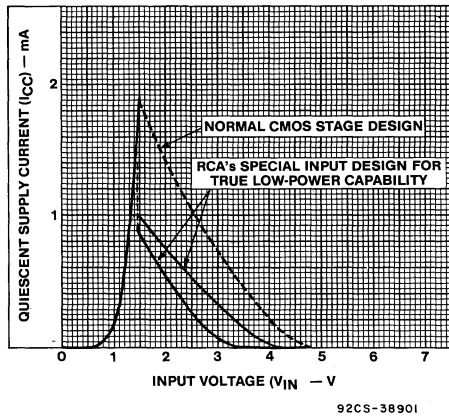

Fig. 30: I_{cc} vs. V_{IN} for HCT types
Fig. 30 illustrates the typical I_{CC} vs. V_{IN} characteristic of HCT type devices. Again, if input voltages are 0.1V or ($V_{CC} - 0.1V$), no ΔI_{CC} value exists. Also for $V_{IN} = 0.4V$, ΔI_{CC} is zero. If V_{IN} , however, is an LSTTL logic high level of ($V_{CC} - 2.1V$) or approximately 3V for $V_{CC} = 5V$, then **significant** ΔI_{CC} does exist and is indicated in equation (B) as the ΔI_{CC} component.
The special input design of RCA's HCT types greatly reduces the value of ΔI_{CC} such that the added power is very small; for example, RCA's HCT power is minimal compared to LSTTL power. If this special input circuitry were not used, the ΔI_{CC} values would be relatively high as demonstrated by the dashed line in Fig. 30, and the HCT type would not have very low power when compared to LSTTL.